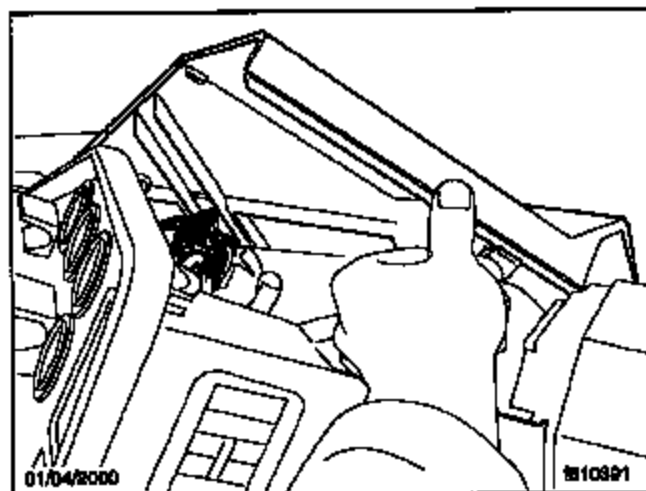

Fig. 1, Remove the Center Dash Panel Cover
3. Remove the center dash panel screws and remove the dash panel cover. See Fig. 1.